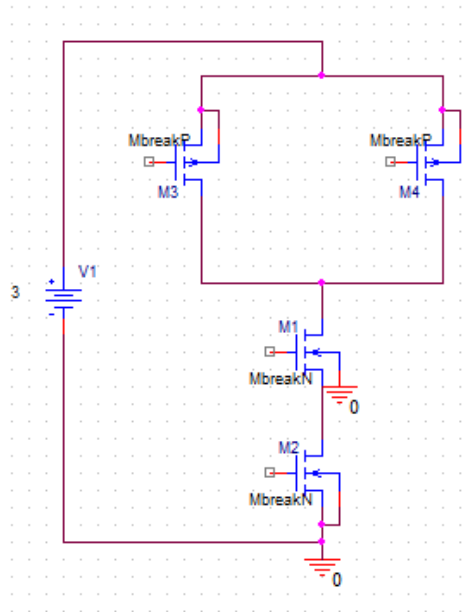

Figure 1
The experiment is to design a 2-input CMOS NAND gate based on the CMOS inverter and study its characteristics. Using the properties of the inverter we are able to create a network of NMOS and PMOS transistors to create logic [Figure 1]. This allows the creation of any of the logic gates, to illustrate we build a NAND gate. This gate is an important one because this is a universal gate, meaning we can create any logic function using only this gate. Its logic function is $\overline{A \cdot B}$, which is what the design must satisfy [Table 1].
- Then it had to be tested for the logic functionality of the design so it satisfies the NAND gate properties. (We have two inputs use two input pulse waves see figure 1 and the following paragraph will illustrate more).